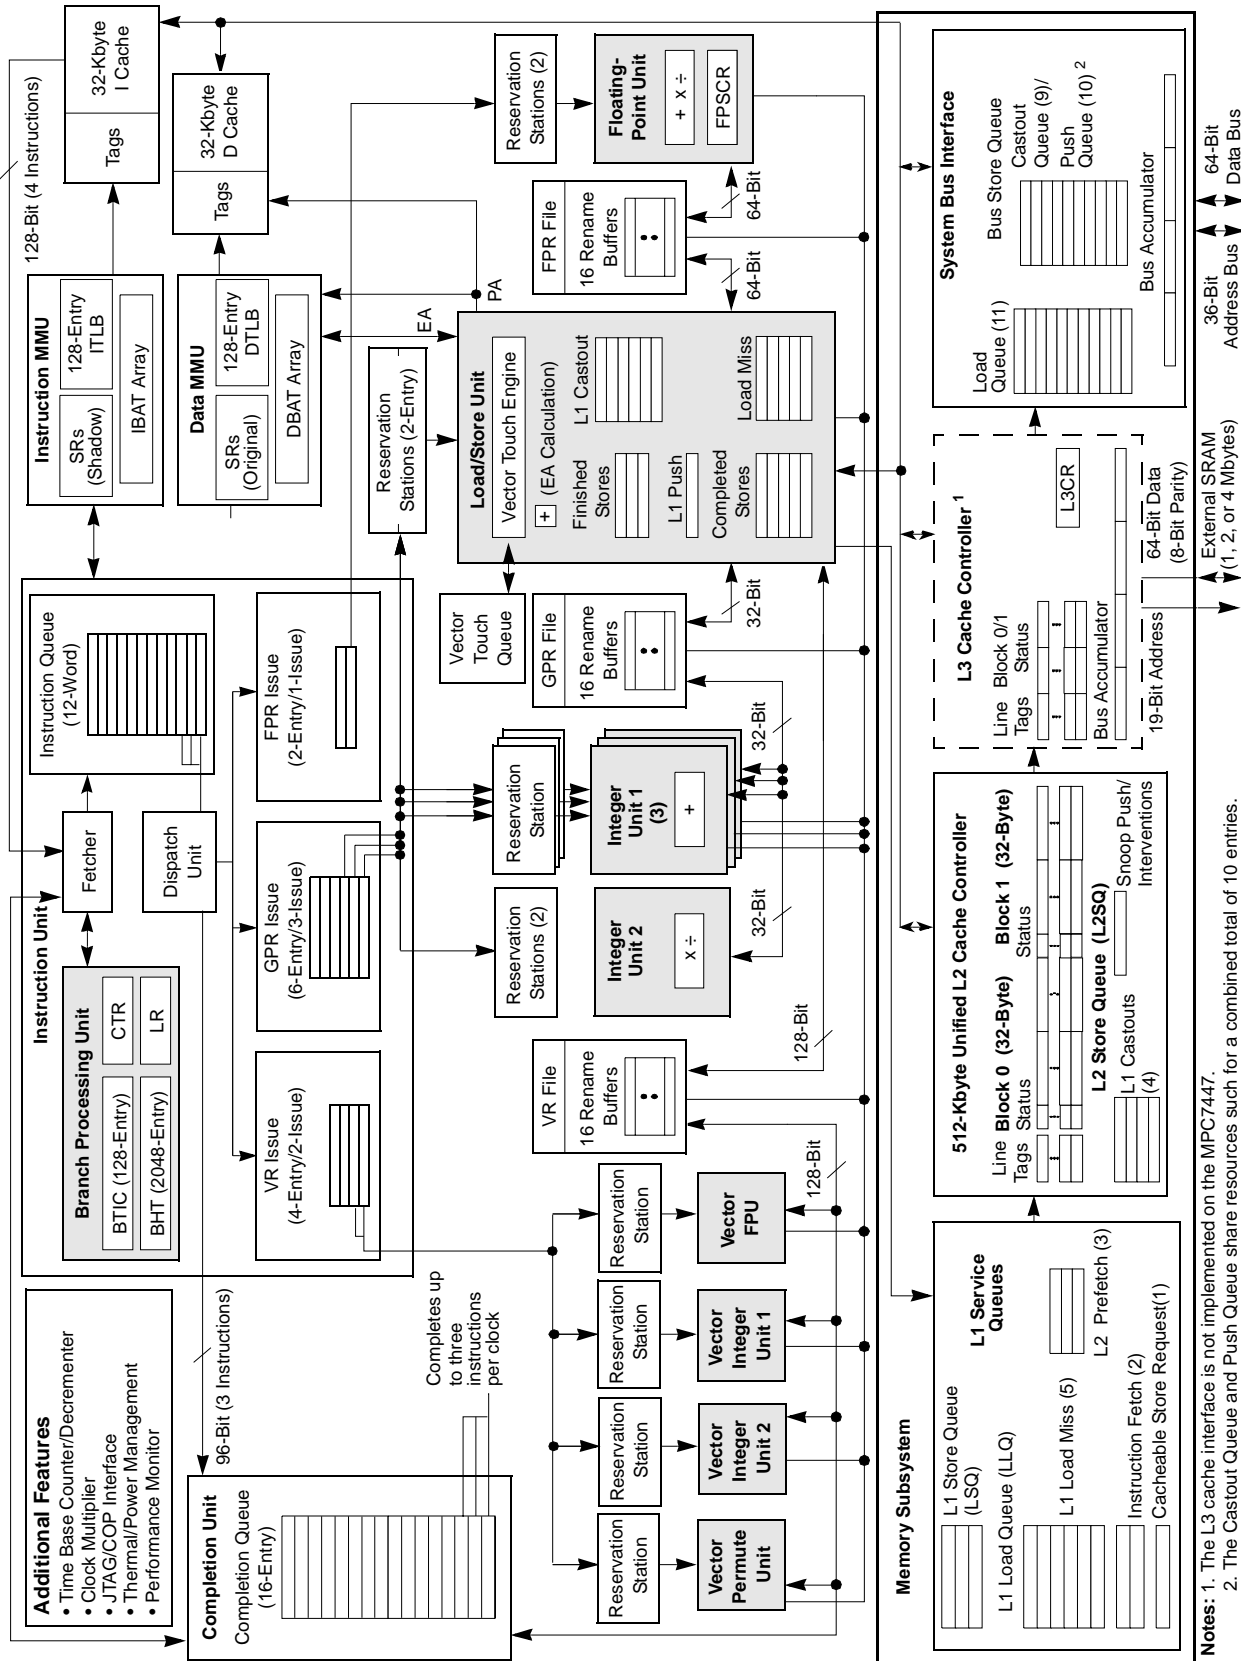

Figure 1. MPC7457 Block Diagram
**Figure 1** shows a block diagram of the MPC7457. The core is a high-performance superscalar design supporting a double-precision floating-point unit and a SIMD multimedia unit.